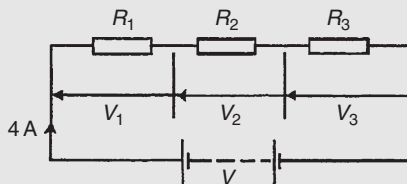

Figure 5.2
**Problem 1.** For the circuit shown in Fig. 5.2, determine (a) the battery voltage  $V$ , (b) the total resistance of the circuit, and (c) the values of resistors  $R_1$ ,  $R_2$  and  $R_3$ , given that the p.d.s across  $R_1$ ,  $R_2$  and  $R_3$  are 5 V, 2 V and 6 V, respectively.